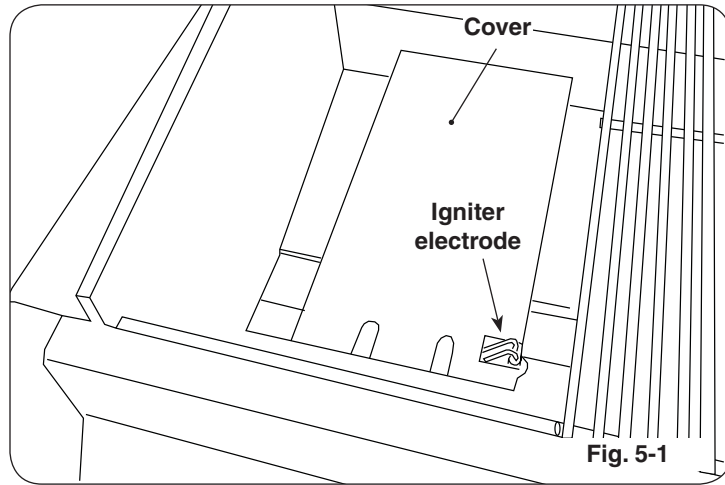

Fig. 4-3 Apply the conversion label
7. Affix the conversion label supplied with this kit to the inside of the fire wall behind the control panel so that it does not obscure any other labels (Fig. 4-3).